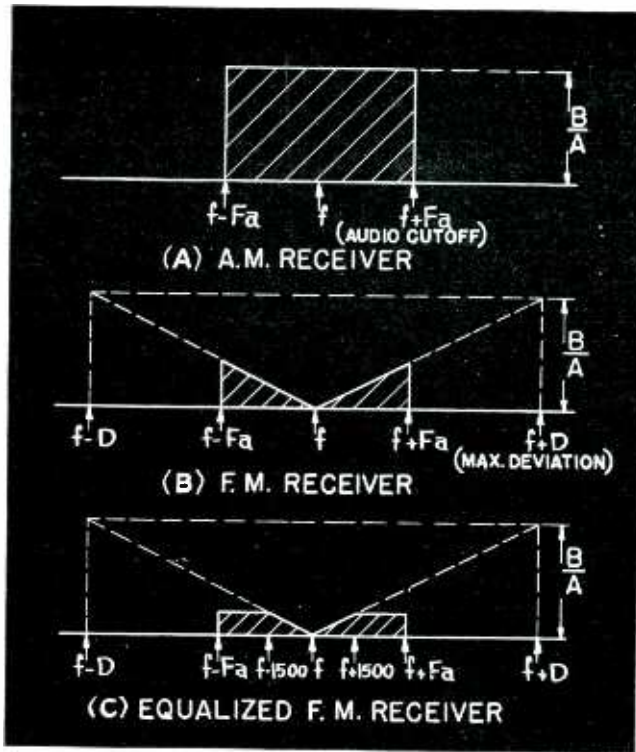

Fig. 7—Shaded areas are proportional to the effective values of sideband noise for three different types of receivers
where K is a constant, and F_a is the highest audio frequency reproduced by the receiver. It then follows from Fig. 7 that in frequency modulation,
The audio noise consists of terms of the type described by Eq. (5) and (B/A) , in amplitude modulation and terms described by Eqs. (6) and (7) in frequency modulation. The shaded areas in Fig. 7 show the magnitudes of the audio effects of these sidebands in accordance with (B/A) and Eq. (7).